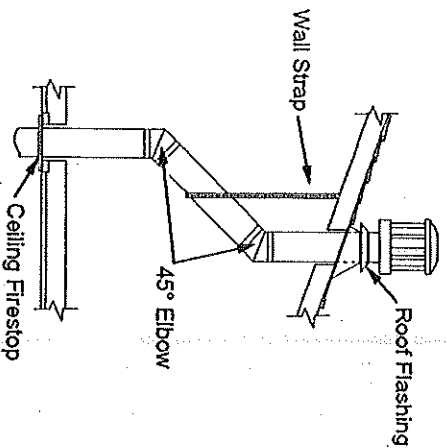

Figure 19 - Offset with Wall Strap and 45° Elbows
1. Determine the route your vertical venting will take. If ceiling joists, roof rafters, or other framing will obstruct the venting system, consider an offset (see Figure 19) to avoid cutting load bearing members. **Note:** Pay special attention to these installation instructions for required clearances (air space) to combustibles when passing through ceilings, walls, roofs, enclosures, attic rafters, etc. Do not pack air spaces with insulation. Also note maximum vertical rise of the venting system and any maximum horizontal offset limitations.
**Note:** If an offset is needed to avoid obstructions, you must support the vent pipe every 3 feet. Use wall straps for this purpose (see Figure 19). Whenever possible, use 45° elbows instead of 90° elbows. The 45° elbow offers less restriction to the flow of the flue gases and intake air.
5. Place the flashing over the pipe section(s) extending through the roof. Secure the base of the flashing to the roof and framing with roofing nails. Be sure roofing material overlaps the top edge of the flashing as shown in Figure 19. There must be a 1" clearance from the vent pipe to combustible materials.